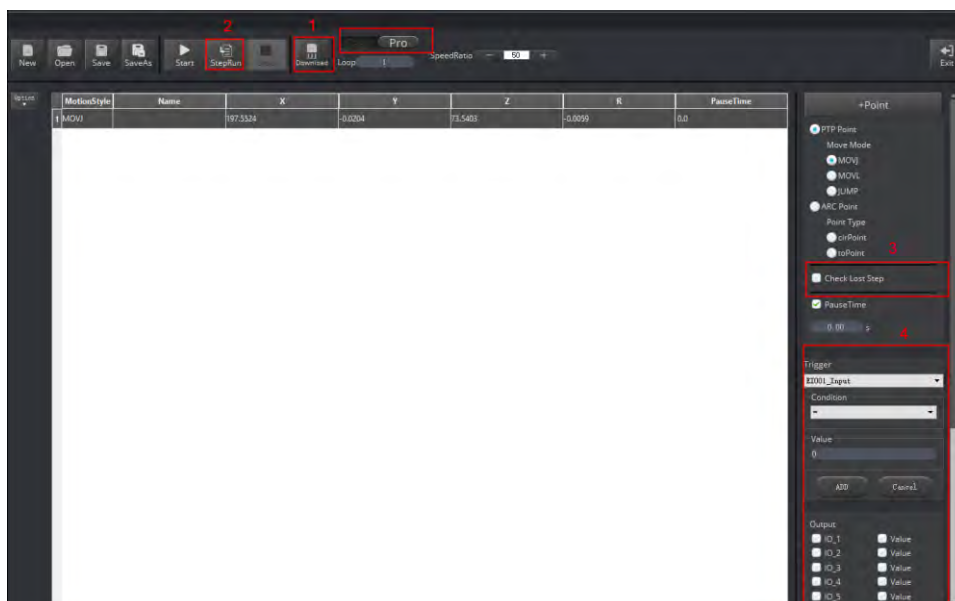

Figure 5.17 The Pro mode of the Teaching & Playback function
- Pro** mode: To enter the **Pro** mode from the current **Easy** mode, click the **Easy/Pro** slider, as shown in Figure 5.17. Apart from all the functions in the default **Easy** mode, the **Pro** mode allows the robotic arm to run a save point each time, detect lost-steps, work in offline mode, and perform the multiplexed I/O interface. For details, refer to Table 5.9.